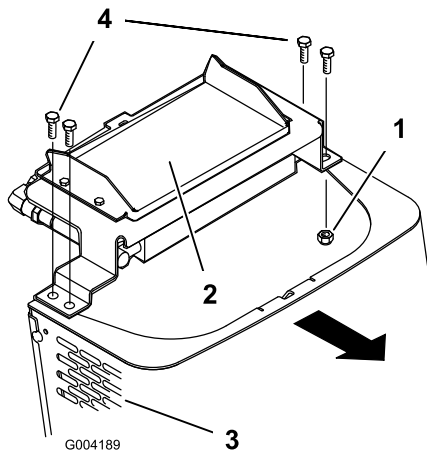

Figure 28
- Remove the shoulder bolts and nuts securing the oil cooler to the top of the front screen (Figure 28).